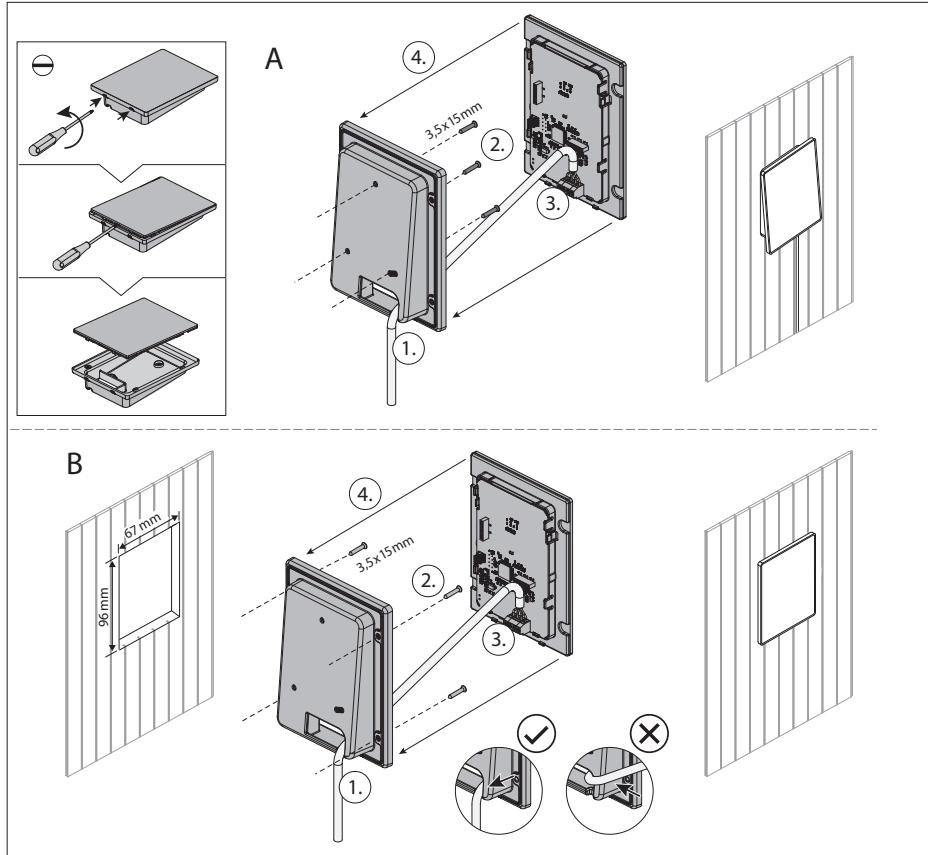

Fig. 1: Mounting the Xenio RGBW light control
The Xenio RGBW light control can be surface-mounted (A) and flush-mounted (B), see **Fig. 1**.